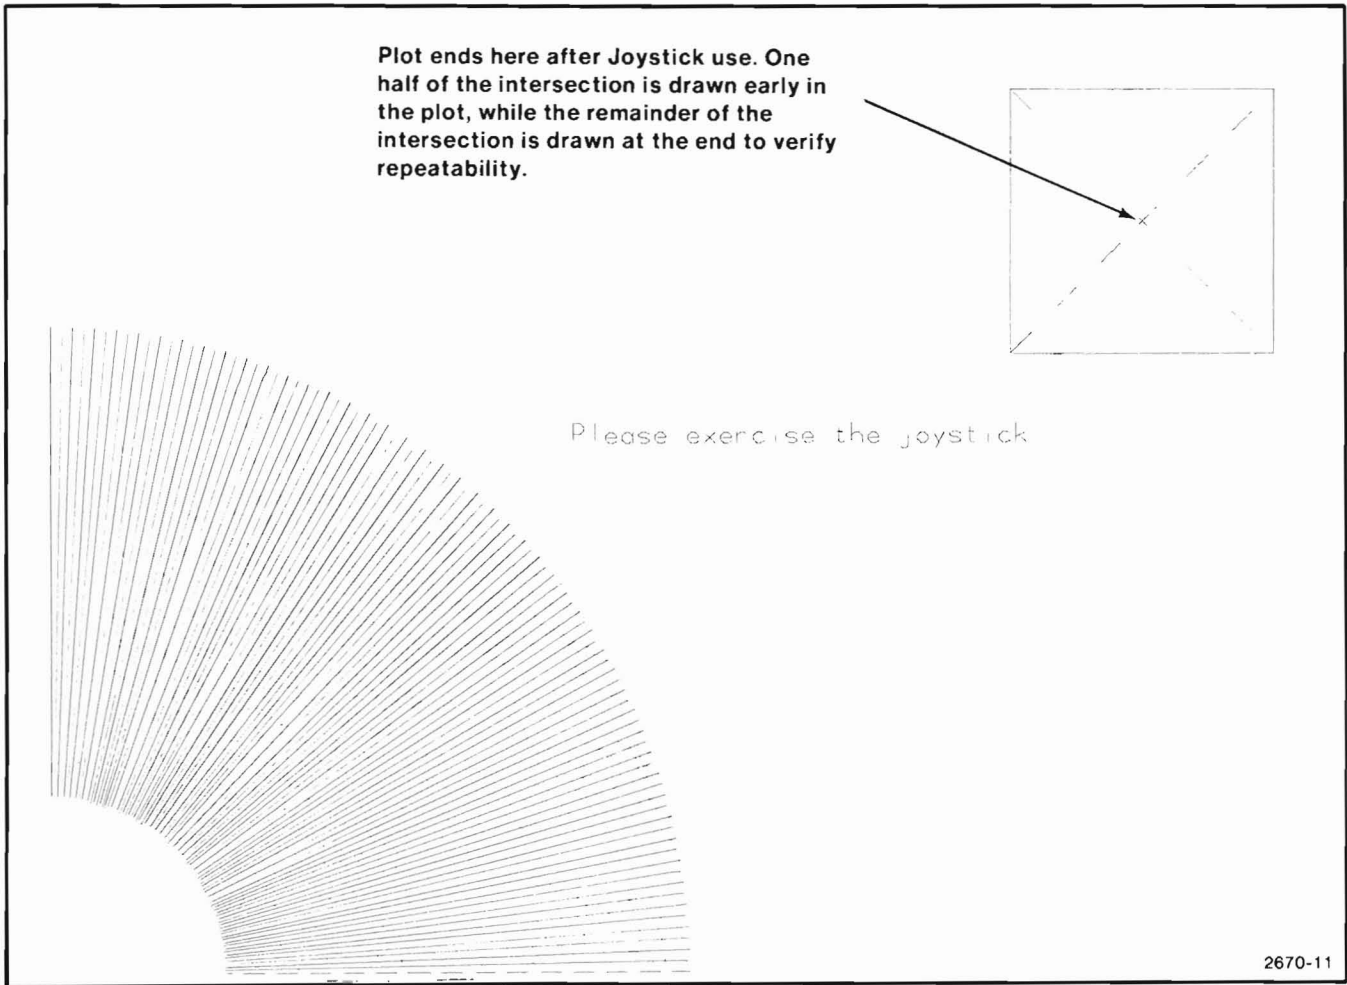

Figure A-1. Test Pattern Produced by Self-Test Feature.
5. Press the switch above Column 1 (on the Self-Test line). The Plotter will draw the pattern shown in Figure A-1.